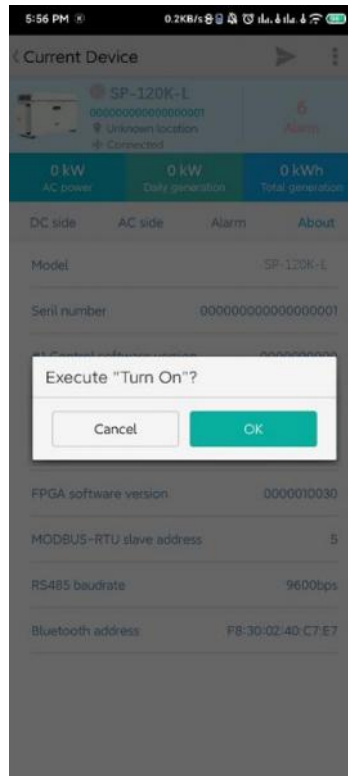

Figure 5-14 Sending the power-on/off command
(2) Confirm the selected command to be sent and tap **OK**. Otherwise, tap **Cancel**, as shown in Figure 5-14.